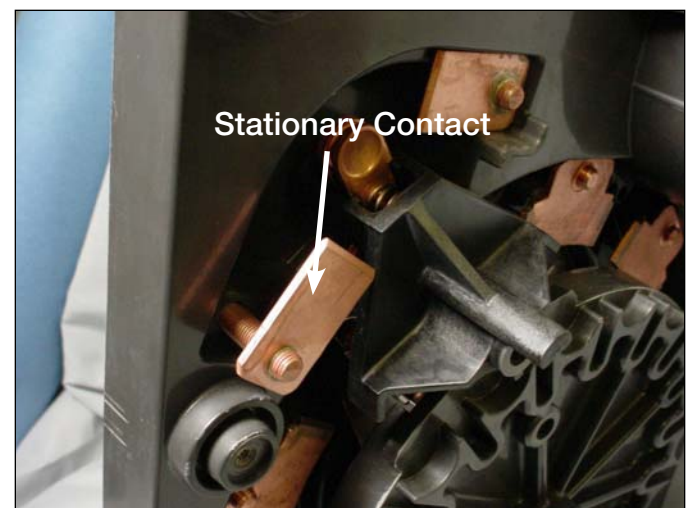

Figure 18.
5. Push the stationary contact stud through the contact panel removing the stationary contact from the contact panel. See Figure 18.
6. Place stationary contacts in either VR or VL position or both. See Figure 18.